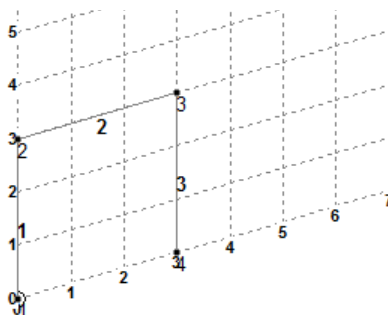

Figure 2-29 Nodes 2, 3, and 4 created along with the members
Step 5: Next, move the cursor in the Y direction and click at (0,3) coordinates; the node 2 is created along with the member 1, refer to Figure 2-29.
Step 6: Now, move the cursor in the X direction and click at the coordinates (3,3); the node 3 is created along with the member 2, refer to Figure 2-29.
Step 7: Move the cursor in the negative Y direction and create node 4 at coordinates (3,0), along with member 3, refer to Figure 2-29.